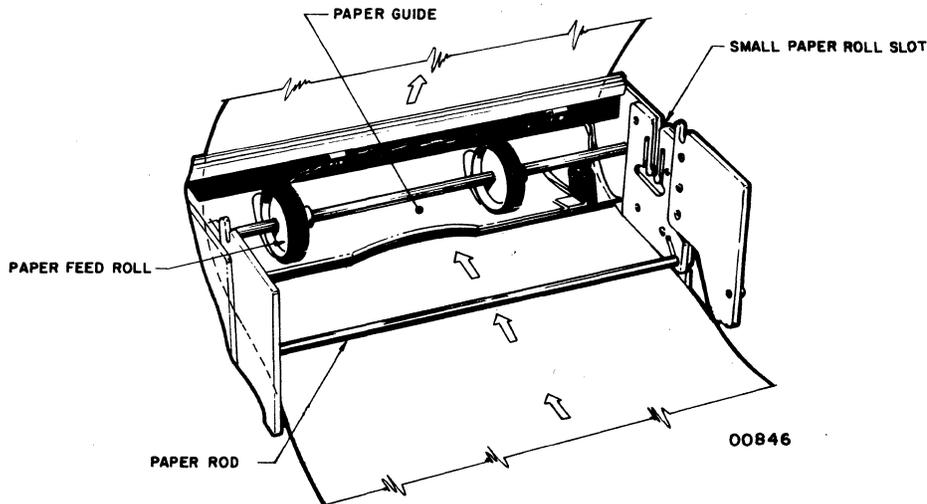

Figure 2-10. Loading Paper in Nonimpact Printer
- 6) Thread the paper beneath the paper rod and between the paper guides as shown in figure 2-10.